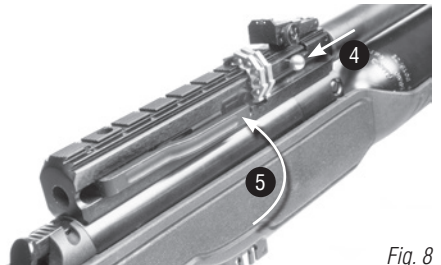

Fig. 8
5. Unlock magazine release bolt by sliding backwards. **(Fig. 8)**. If necessary rotate the magazine counter-clockwise until its movement is arrested by the magazine stop.
Close the cocking handle and ensure that it lays flat against the rifle. **(Fig. 8)**